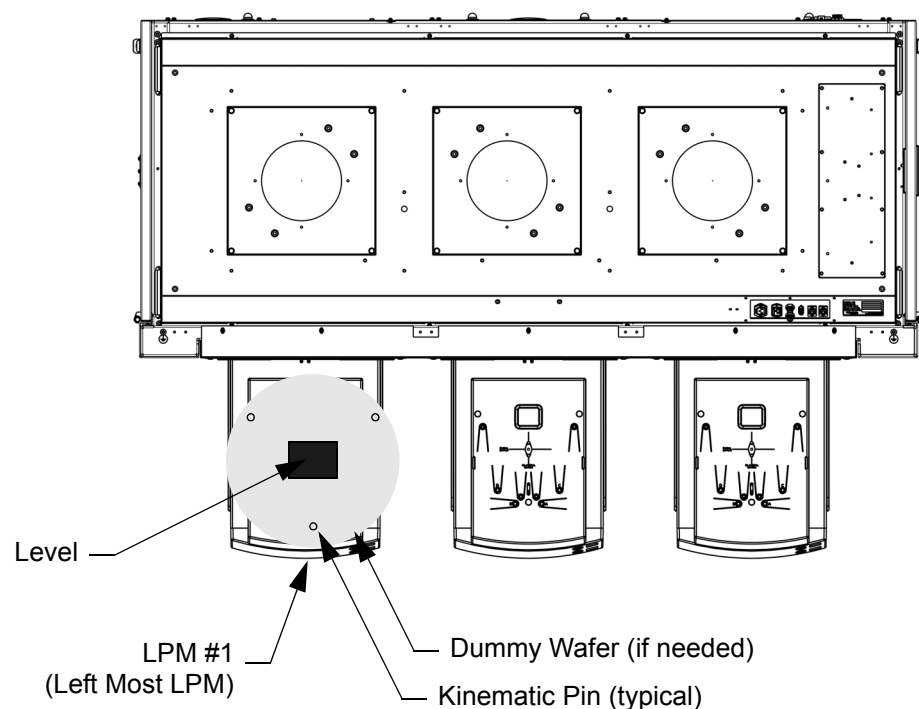

Figure 4-6: Verifying System Pitch and Roll at LPM
- A. For Jet systems shipped with the LPMs attached, center a MicroTool Electronic Wafer Level (or a MicroTool Electronic Level placed on a wafer) onto the kinematic pins of LPM #1, as shown in Figure 4-6, and check the Pitch and Roll.
- B. For Jet systems shipped with the LPMs removed, center a MicroTool Electronic Wafer Level (or a MicroTool Electronic Level placed on a wafer) onto the kinematic pins of each LPM, as shown in Figure 4-6, and check the Pitch and Roll.